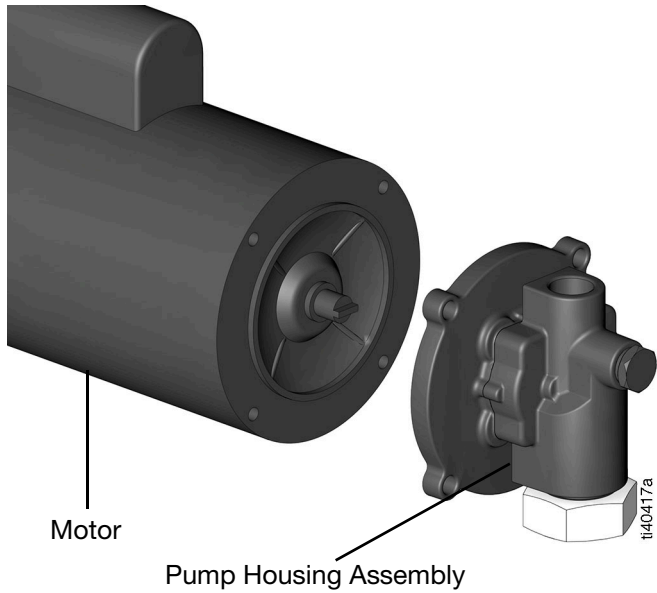

FIG. 4
- Remove the pump housing assembly from the motor (FIG. 4).